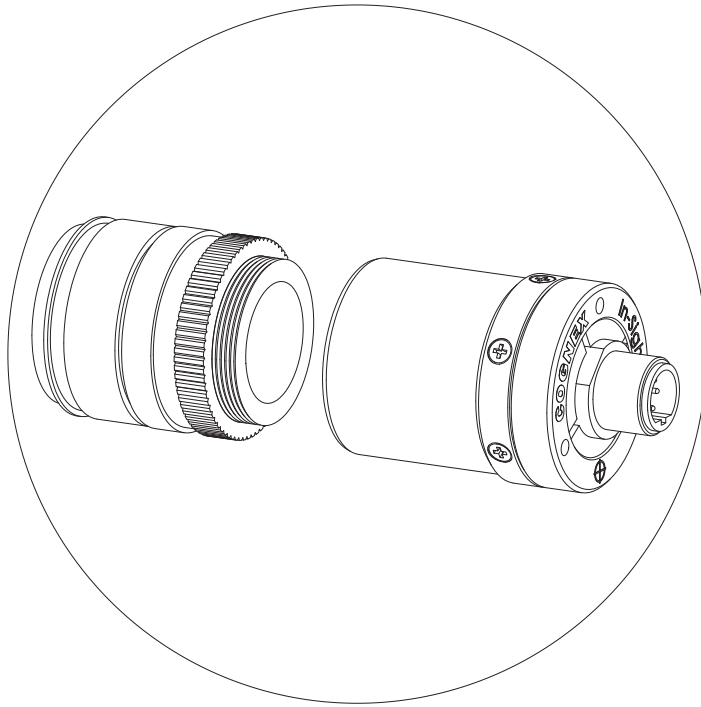

Figure 2-3: Install the Lens
1. Attach a CS-Mount or C-Mount (with 5mm extension ring) lens to the remote head camera (Figure 2-3).